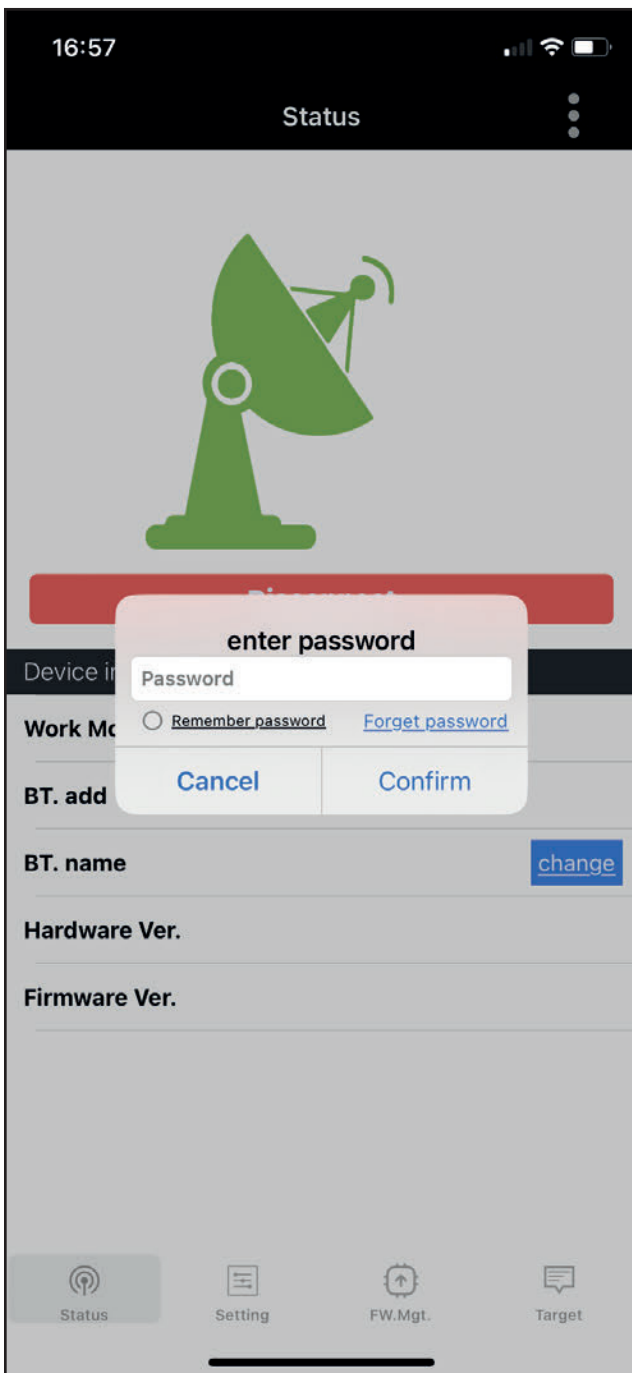

Figure 4
4. Enter the password (Figure 4)